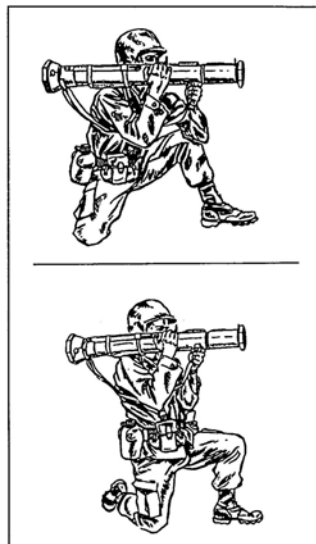

Figure 2. First and Second Kneeling Positions
- (2) The kneeling position with two variations (Figure 2).